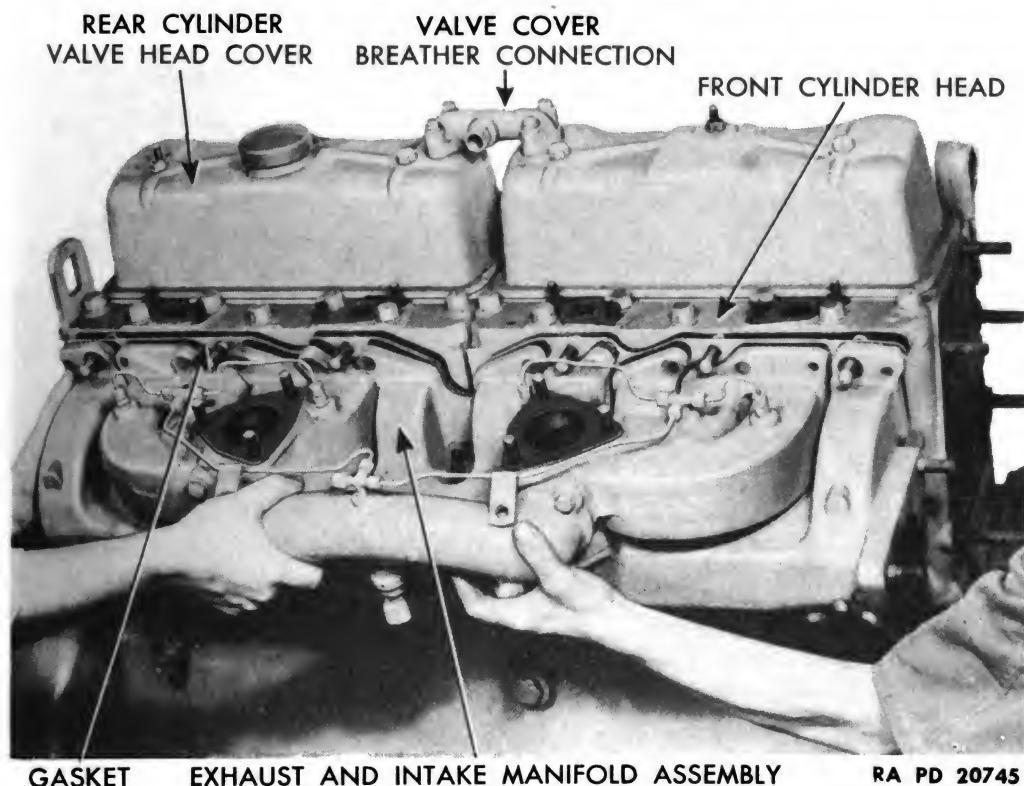
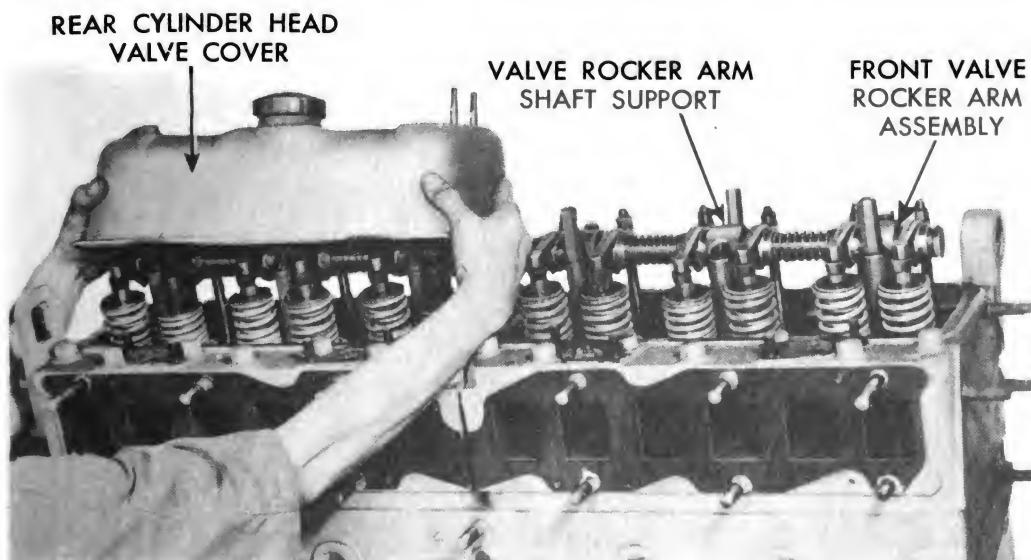
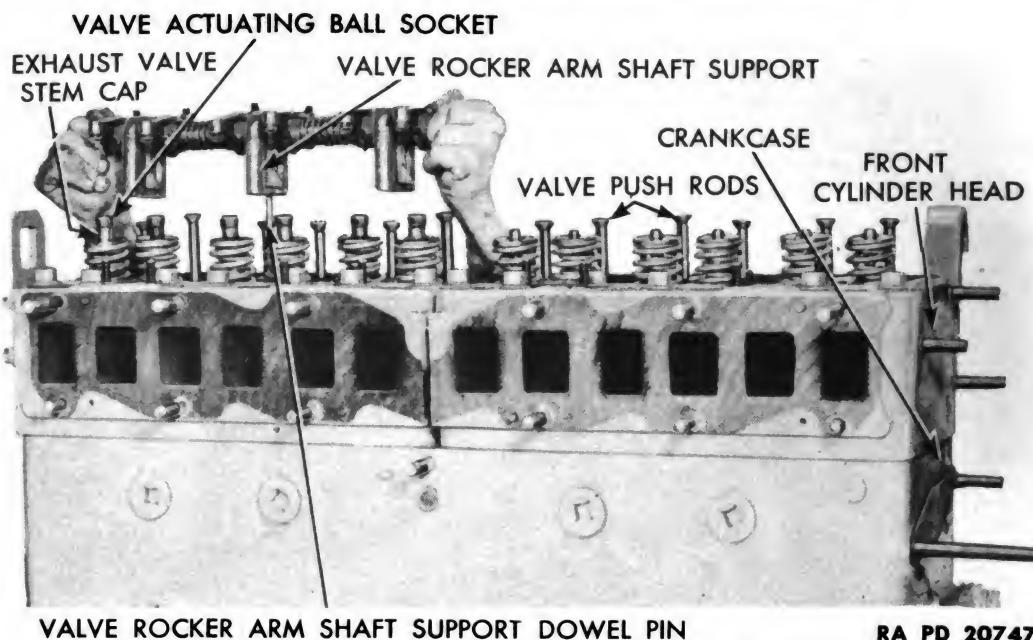
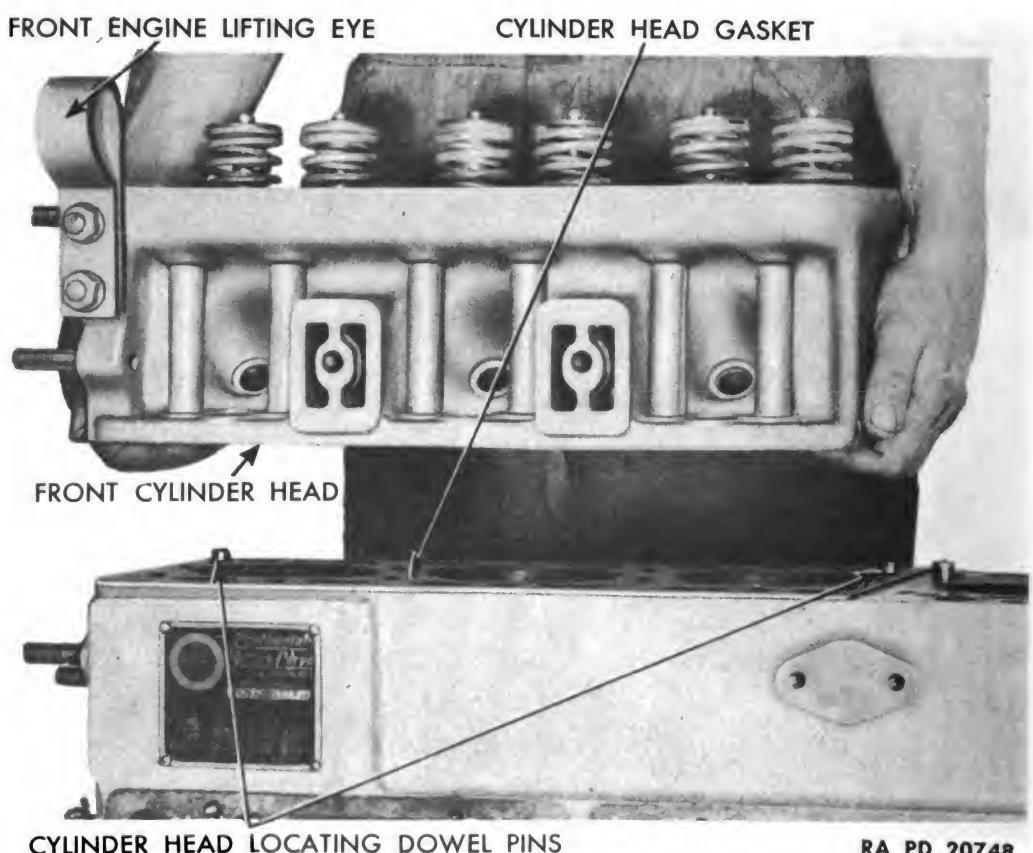

Figure 13 — Removing Exhaust and Intake Manifold Assembly
Figure 14 — Removing Rear Cylinder Head Valve Cover
Figure 15 — Removing Valve Rocker Arm Shaft Assembly
Figure 16 — Removing Front Cylinder Head
- c. **Remove Intake and Exhaust Manifold with Primer Tubes.** Remove 15 nuts, 4 plain washers, and 11 crabs holding the intake and exhaust manifold assembly to the two cylinder heads. Lift off the manifold assembly and two gaskets (fig. 13).
cylinder head valve covers, and lift connection off four studs (fig. 13). Remove six screws and plain washers holding two cylinder head valve covers to cylinder heads. Lift off covers and gaskets (fig. 14).
e. Remove Cylinder Heads. Remove three extension head screws, three cap screws, and six lock washers holding three valve rocker arm shaft supports to front cylinder head (fig. 14). Lift off valve rocker arm shaft assembly. Repeat operation, and remove rear cylinder head valve rocker arm shaft assembly (fig. 15).
Remove 12 valve actuating ball sockets and 12 valve stem caps from ends of valve stems (fig. 15). Lift out valve push rods (fig. 15). Remove 14 screws and plain washers securing front cylinder head to crankcase. Lift off cylinder head and gasket (fig. 16). Repeat operation to remove rear cylinder head and gasket.